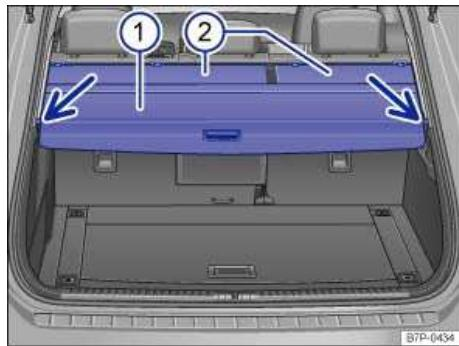
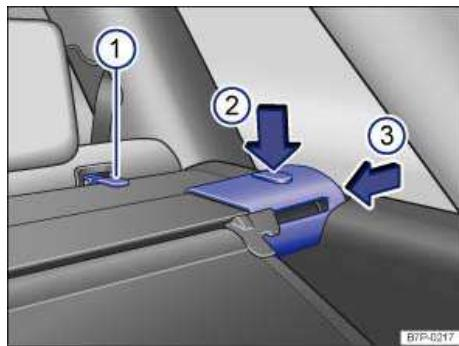

Fig. 101 In the luggage compartment: Closed luggage compartment cover.
Fig. 102 In the luggage compartment: Removing the luggage compartment cover.
- Grasp the luggage compartment cover ⇒ fig. 101 (1) by the handle and pull it slightly to the rear.
- If there is a gap cover (2), unhook it from the fastening eyes on the rear seat backrests ⇒ fig. 102 \(1\).
- Push down release button (2) and push in the end parts of the luggage compartment cover (3).
- First fit the luggage compartment cover ⇒ fig. 101 \(1\) into the left-hand slot.
- Push down release button ⇒ fig. 102 \(2\) and push in the end parts of the luggage compartment cover (3).
- If there is a gap cover ⇒ fig. 101 \(2\), hook it back into the fastening eyes on the rear seat backrests ⇒ fig. 102 \(1\).